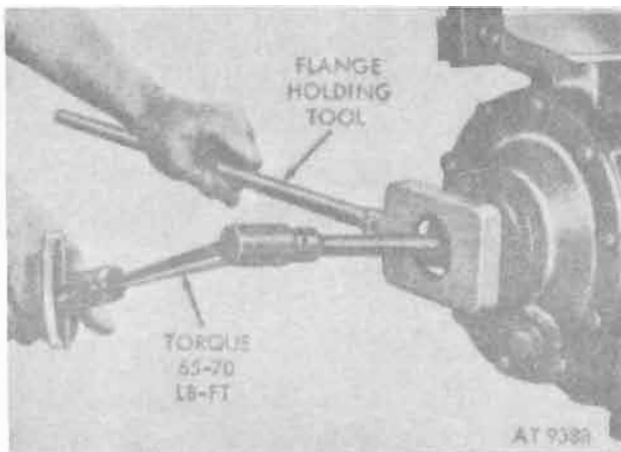

Figure 12-78. Torquing side flange retaining bolt.
g. Using flange holding tool, torque side flange retaining bolts to 40-50 lb.-ft (fig. 12-78).